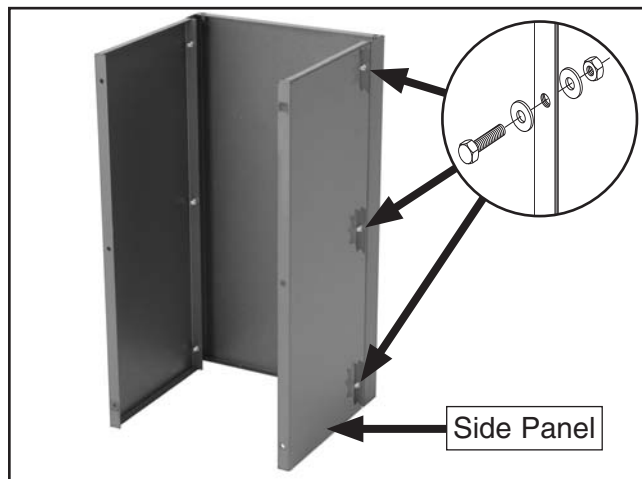

Figure 11. Second side panel attached.
2. Attach the remaining side panel in the same manner as **Step 1**, as shown in **Figure 11**.